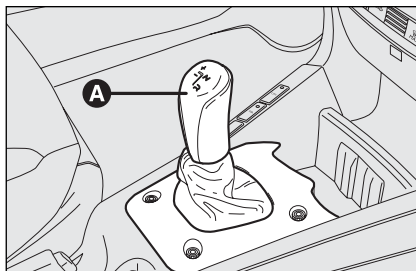

fig. 5
- ☐ the gear lever **A-fig. 5** on the central console;